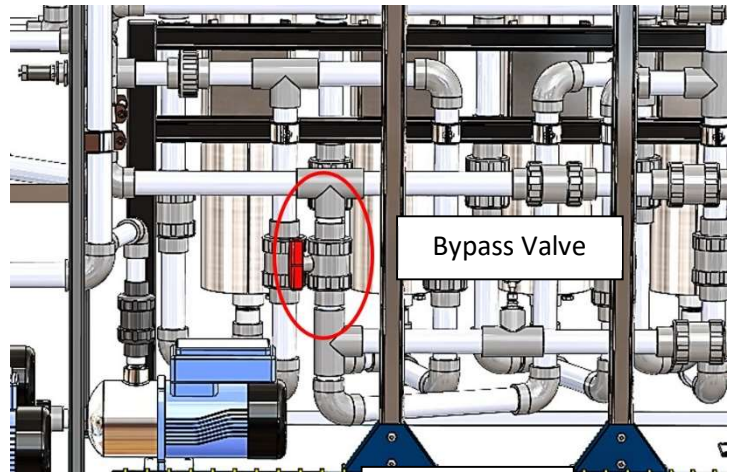

FIGURE C4-1
- Open the bypass valve. See Figure C4-1